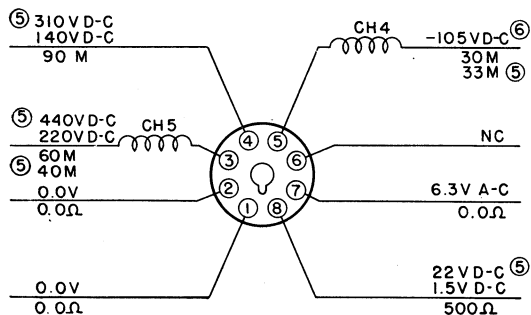

Figure 29. Radio Transmitter BC-610-(*), r-f buffer-doubler stage, schematic wiring diagram.
26. R-F Buffer-Doubler Stage (fig. 29)